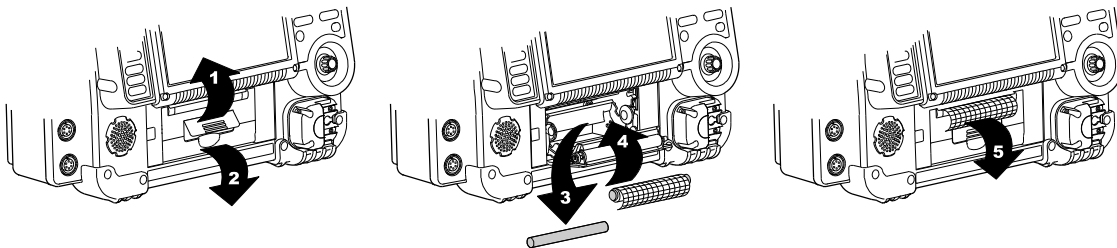

Figure 9-1 Loading Paper
1. Lift the printer door latch to release the door (see Figure 9-1).